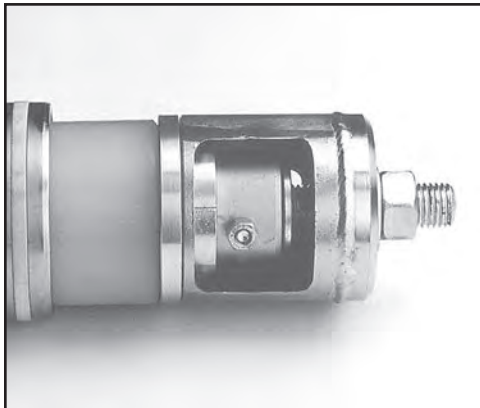

FIG. 61: DISASSEMBLY TOOL IN PLACE ON CONTROL TUBE
10. Place disassembly tool over the control tube end so that the disassembly tool sits on the support ring of the elastic block (see Fig. 61).